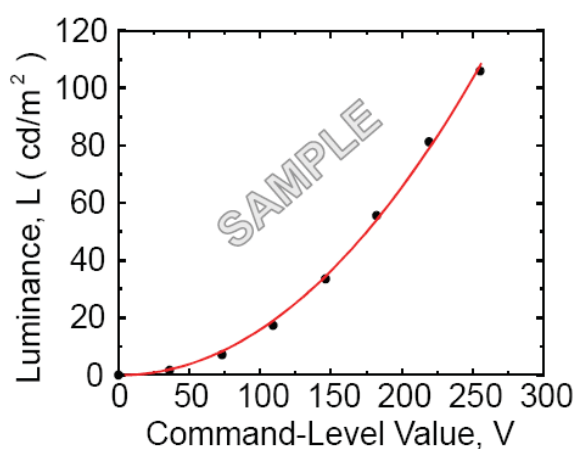
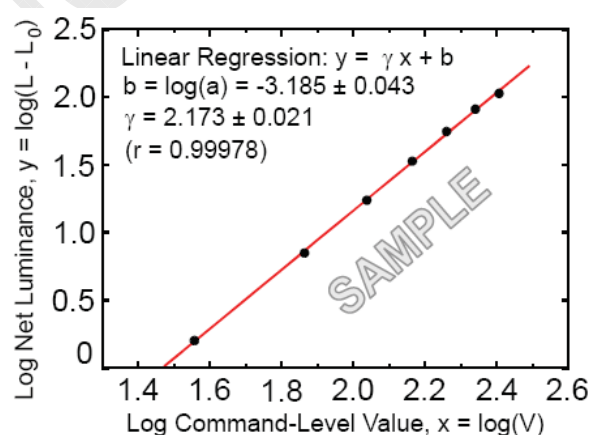

FIG. 6 Sample Luminance vs. gray scale (using a 256 bit gray scale)
FIG. 7 Sample Log-log plot of luminance vs. gray scale
7. Effective viewing angle is the angle at which the gamma shift of gray scale is lower than 0.3. For more information see FIG 6 and FIG 7.
The GAMMA we calculate from the log-log representation (FIG. 7)